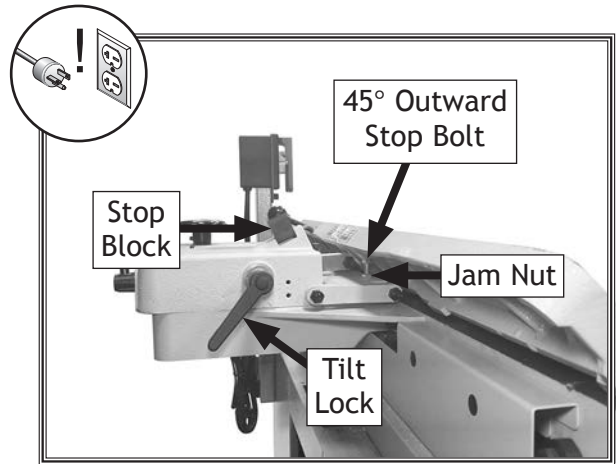

Figure 57. Fence set to 45° outward.
2. Loosen fence tilt lock, rotate stop block up, then tilt fence approximately 45° inward onto stop bolt (see **Figure 57**).
4. Loosen jam nut on 45° stop bolt and adjust stop bolt until fence is exactly 45° outward while resting on stop bolt (see **Figure 57**). Verify angle, then retighten jam nut.